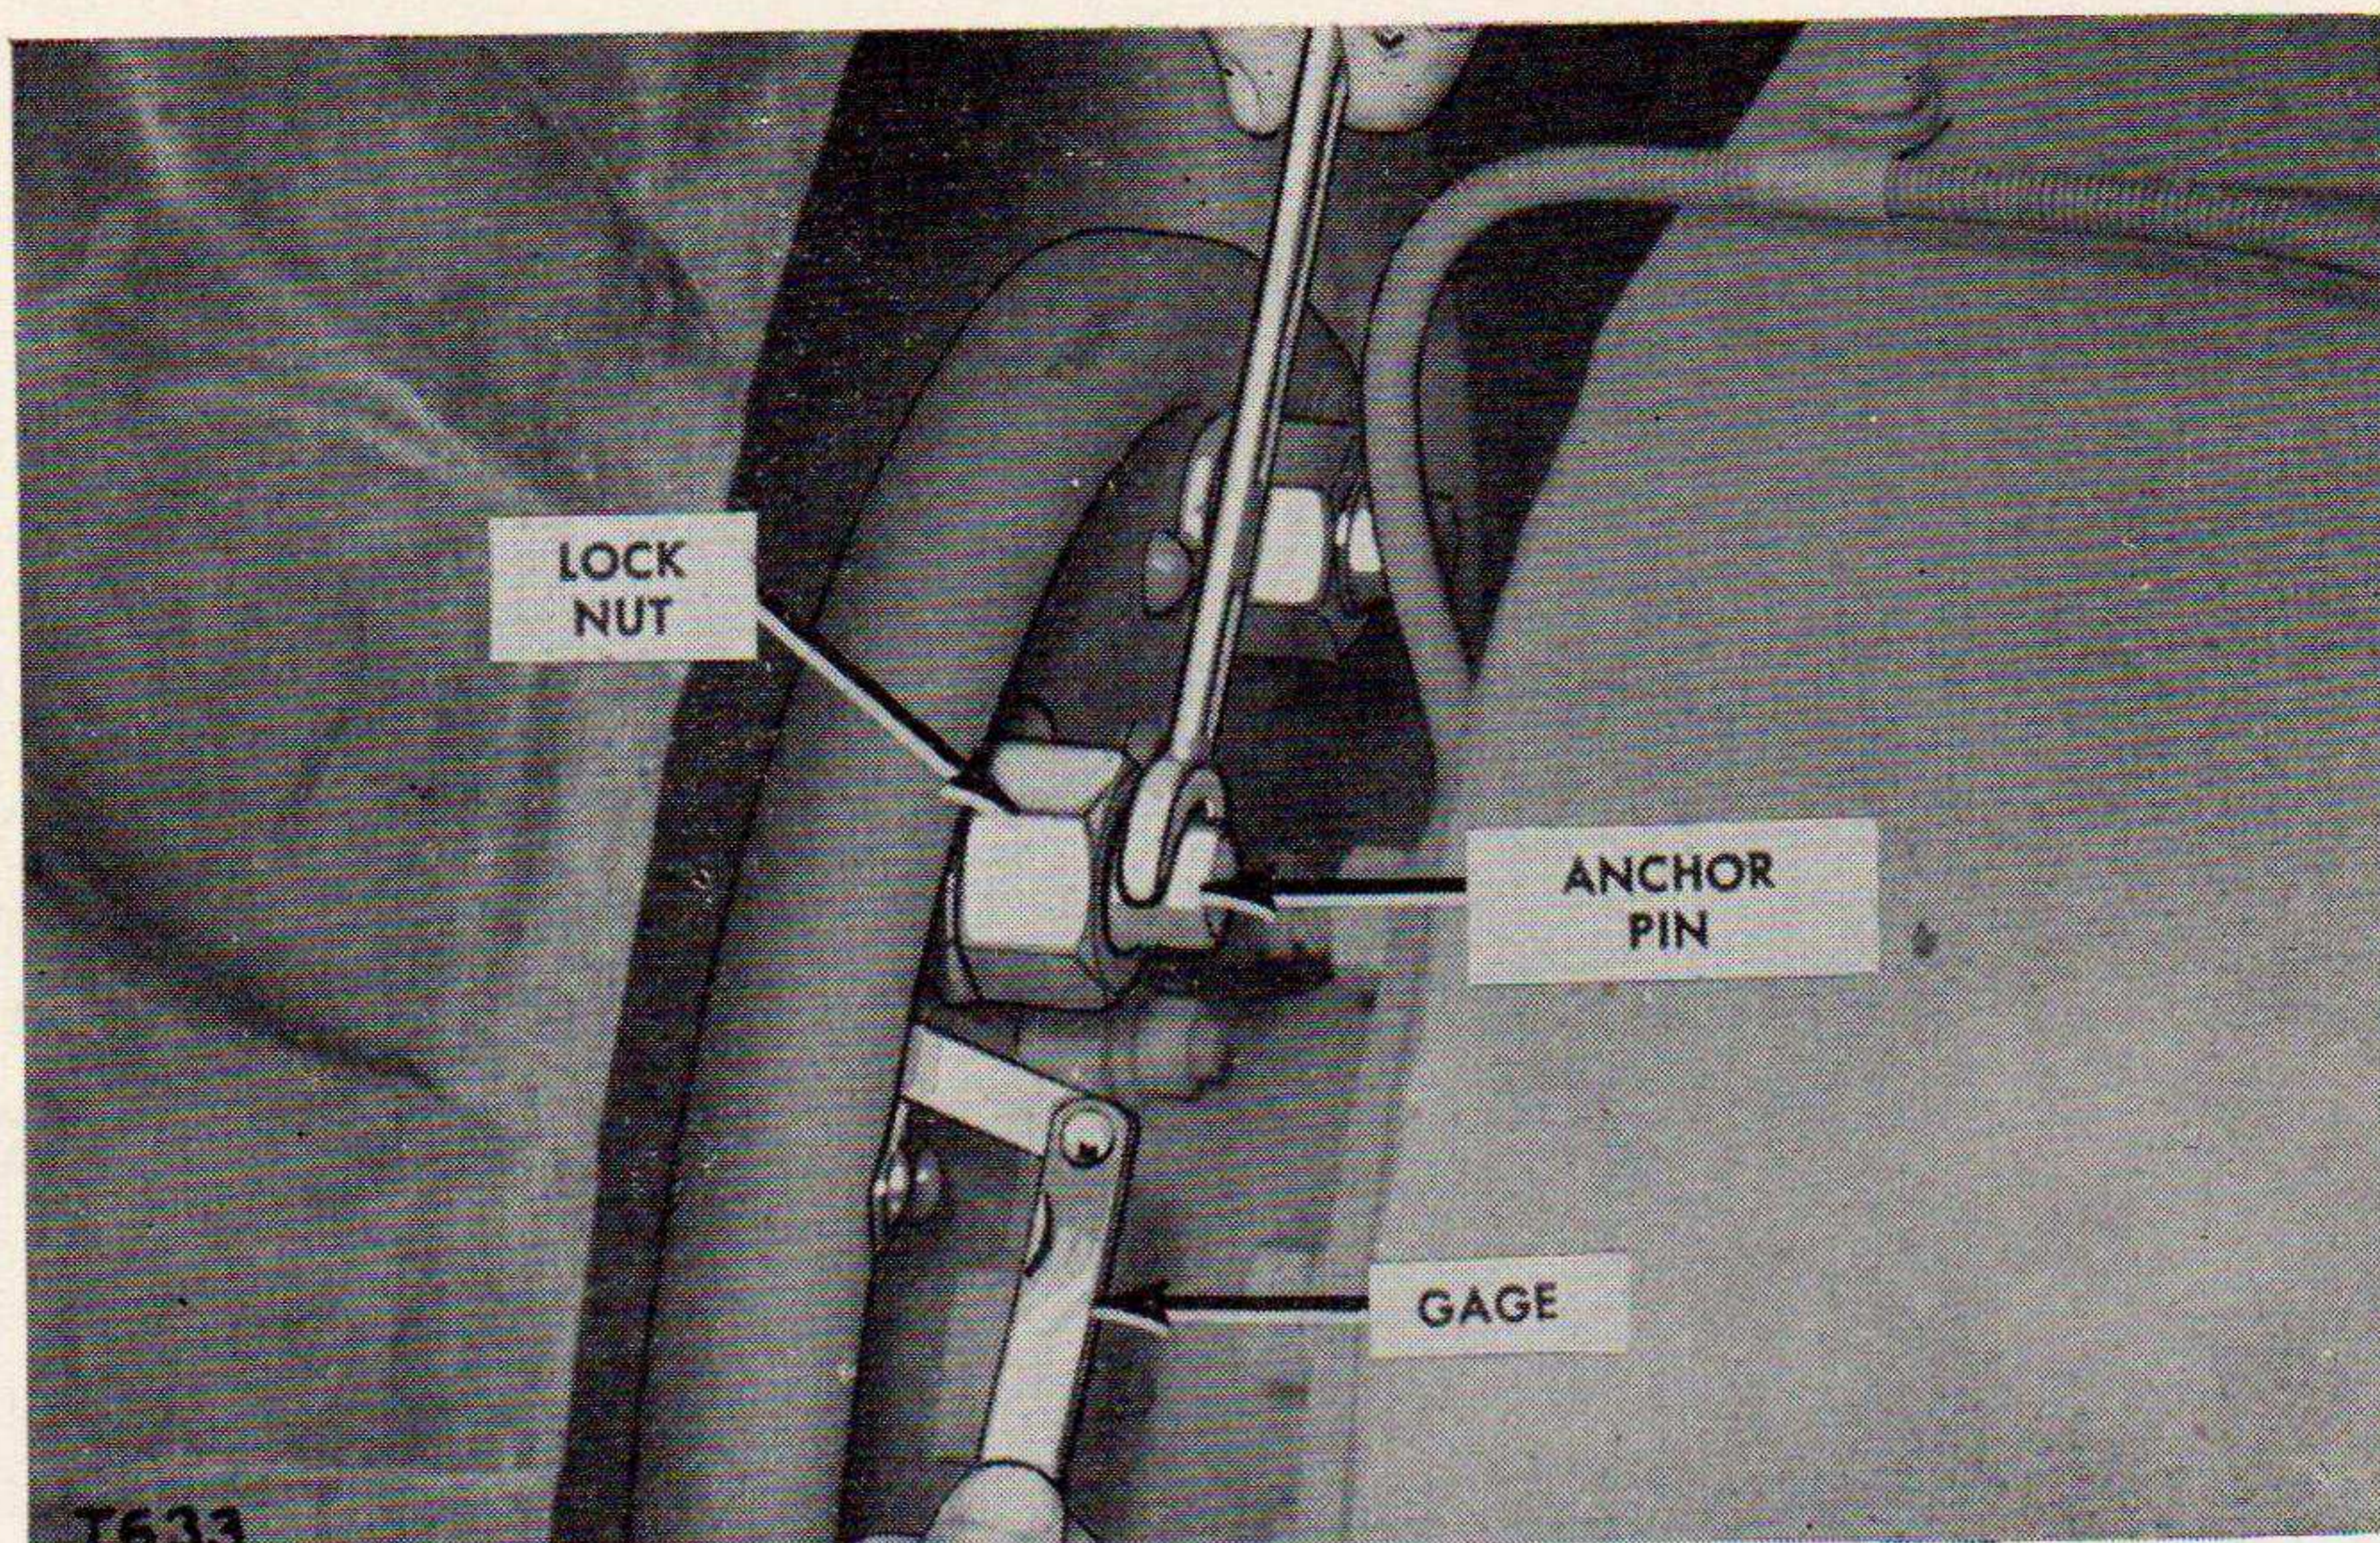

Figure 105. Adjusting clearance at top of shoes.
*e.* ESTABLISH CLEARANCE AT TOP OF SHOES. (See fig. 105.) The clearance at the top of the shoes should be .008 inch. Adjustment at the top of the shoes can be made by turning the anchor pins which will